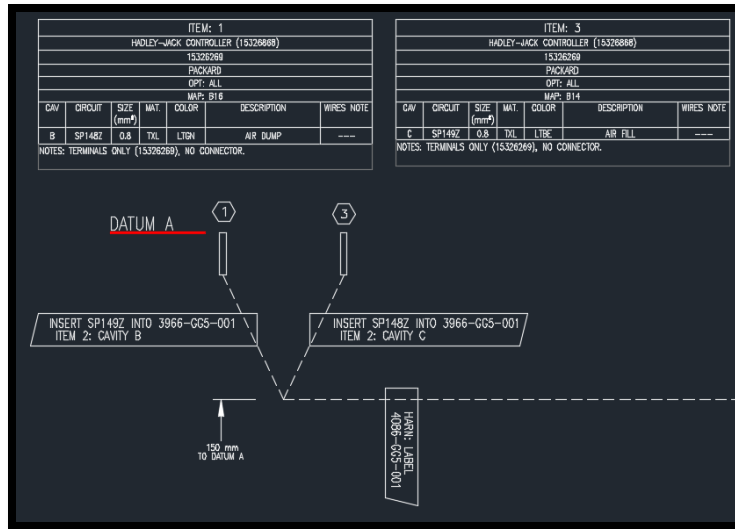

FIG. 4-1
- Insert Delphi Pin, circuit SP148Z (LTGN-18GA) into Spartan Jack Controller (Item #2) cavity B. Refer to FIG. 4-1.